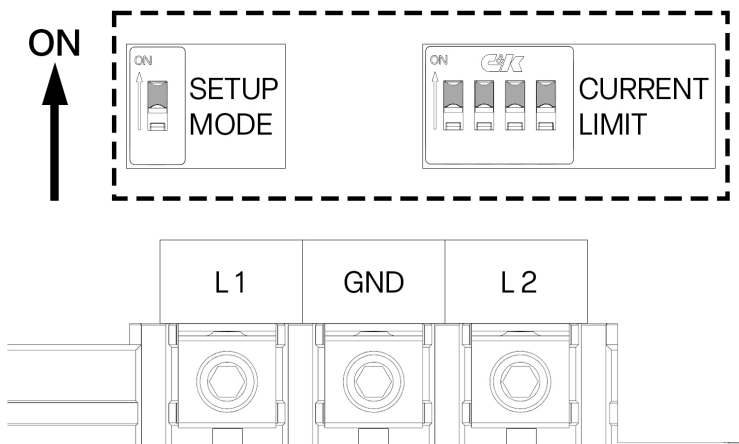

Figure 4-1 Set DIP Switch to Setup Mode
Step 1: With the EZ-Swap Faceplate removed, make sure the “Setup Mode” DIP switch is in the up position (“On”) as shown in **Figure 4-1** below, and power the charger. If the charger is already powered, the charger will automatically reboot when the DIP switch is changed.